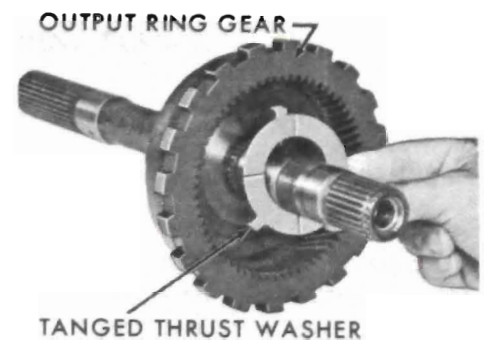

Figure 75-247
2. Install reaction carrier to output ring gear tanged thrust washer. Washer has three (3) tangs see Figure 75-247.